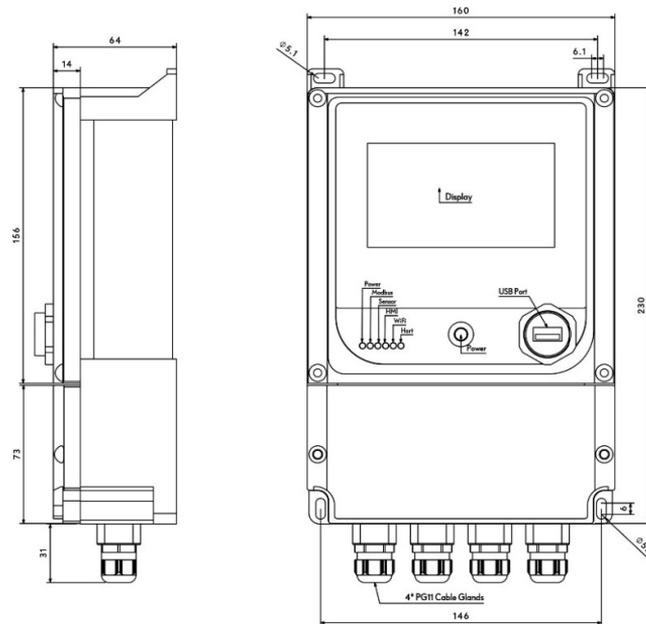
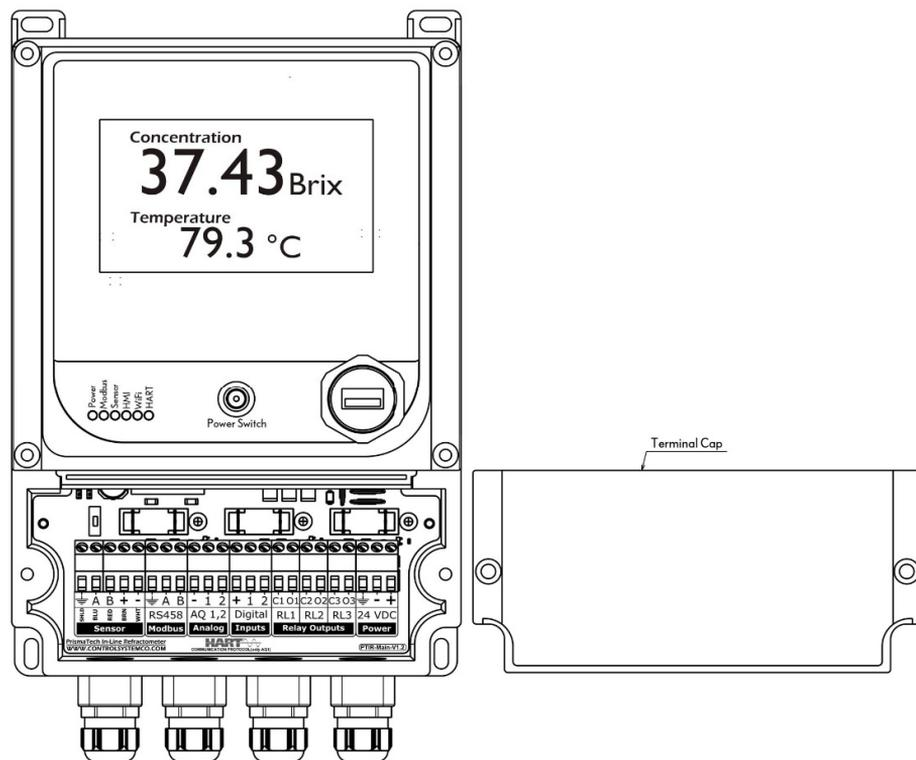

Figure 3-1 Control/Display Enclosure
Figure 3-4 Opening the Front panel of the Control/Display unit
The Control/Display unit is a specialized computer designed to process data received from a sensor. The Control/Display unit enclosure (**Figure 3-1**) contains a 4.3inch wide touch screen display. The front panel terminal-cap (see **Figure 3-4** Opening the Front panel of the Control/Display unit) can be opened to give access for connections and service.
All the electrical terminals of the Control/Display unit are behind the Terminal-cap. To access them, loosen the Terminal-cap two screws (Figure 3-4) and open the Terminal-cap. All terminals are now accessible.
2. Connect the power, press the power switch. The Power LED light (**Figure 3-1**) and the screen should light up within a few seconds.
There is a power switch and power LED on the Control/Display Unit’s front panel as shown in **Figure 3-1**. The **PrismaTech®** inline refractometer provides two power options in the case of power outages which can be changed by the user. When the device is turned off the power LED illustrates the state of power function as below: